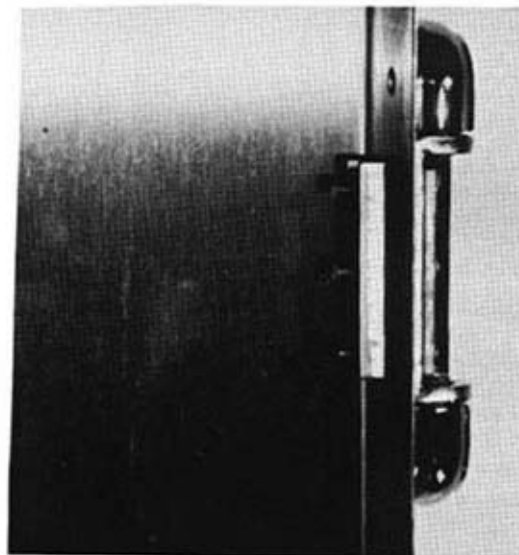

FIG 14
5. Remove the three (3) screws, nuts, nut channel and shim (if applicable - see note) securing defective hinge to door and save for reuse (See Figure 14).